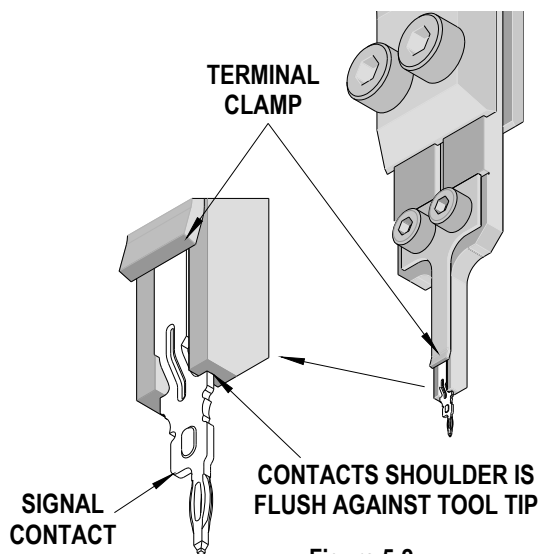

Figure 5-2
1. Place the replacement signal contact at the tip of the insertion tool and slide the contact so it rests underneath the terminal clamp. See Figure 5-2.